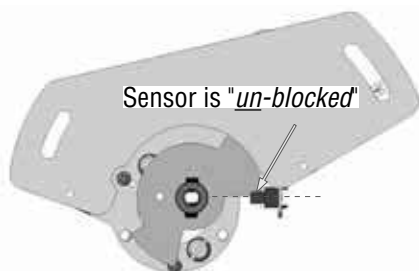

FIG 22-1 Motor in open position.
4. Verify motor assembly is in the OPEN/LOAD position. FIG 22-1.